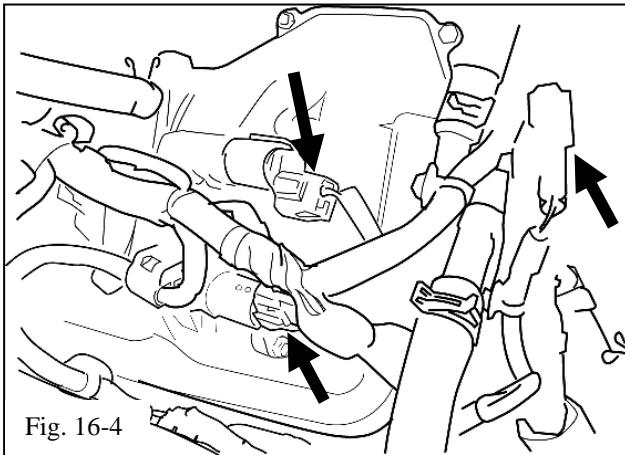

Fig. 16-4
- (f) Unplug the 2 VVT sensors and the front air injection connector (Fig. 16-4).